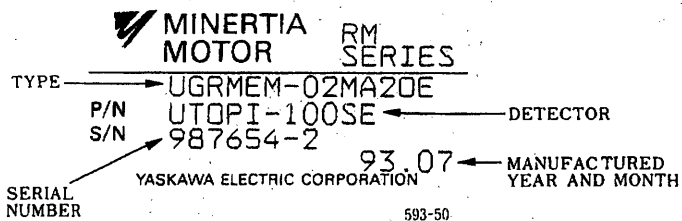

Fig. 1 Nameplate Detail
- The nameplate ratings meet your requirements (Fig. 1).